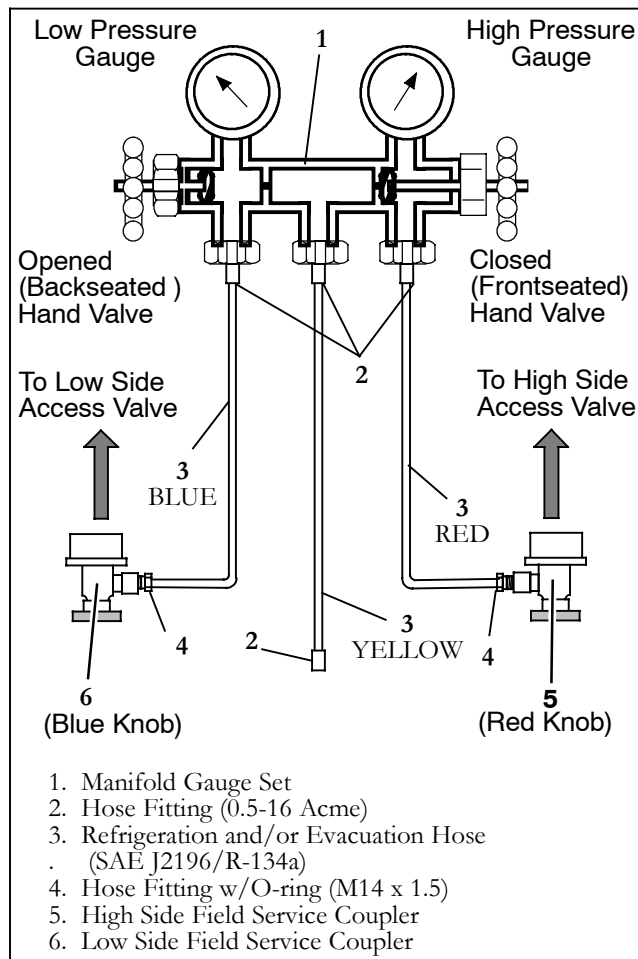

Figure 4-3. Manifold Gauge Set (R-134a)
A R-134a manifold gauge/hose set with self-sealing hoses is required for service of models covered within this manual. The manifold gauge/hose set is available from Mobile Climate Control. (Mobile Climate Control P/N 07-00294-00, which includes items 1 through 6, Figure 4-3.) To perform service using the manifold gauge/hose set, do the following:
2. Back seat (turn counterclockwise) both field service couplers (see Figure 4-3) and midseat both hand valves.
2. Connect the field service coupler (see Figure 4-3) to the access valve.